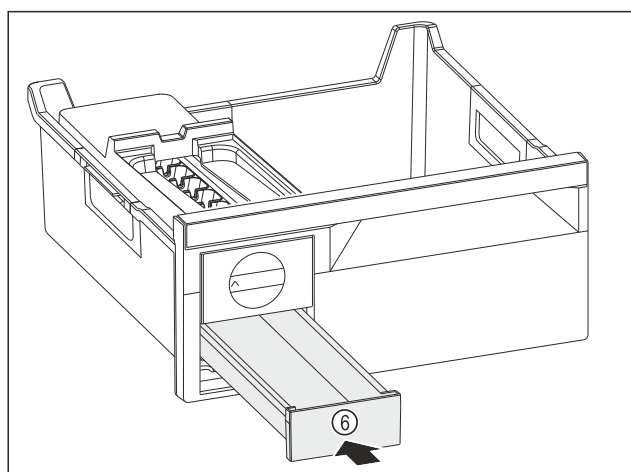

Fig. 73
- Insert the ice cube drawer Fig. 73 (6).